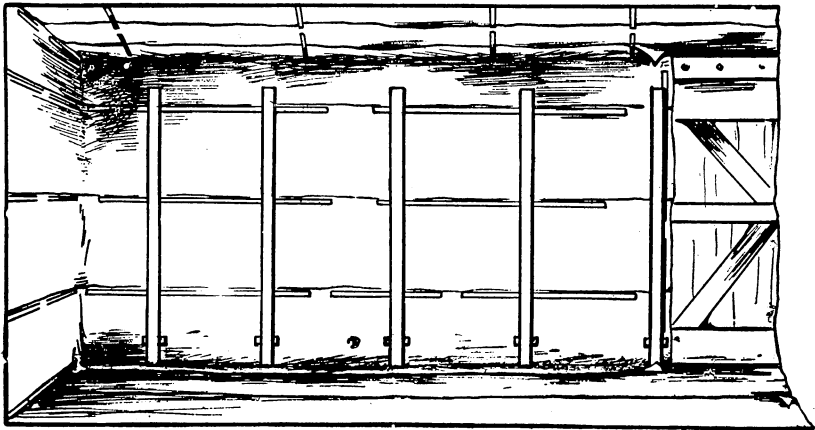

FIG. 6.—False side wall studding in place.
6. Nail 5 of the 2 by 4 inch by 7 feet pieces to the blocks as illustrated in figure 6. This will make a 4-inch space between the false side wall and the car side wall at the top row of blocks, and a 6-inch space at the bottom row.